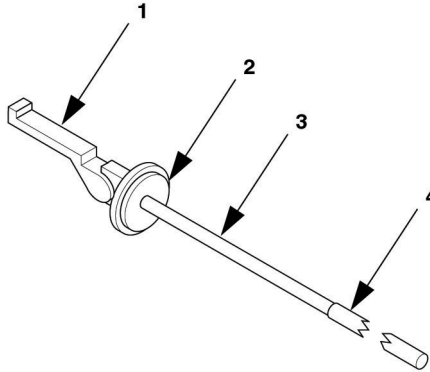

Figure 2-7. Fuel Container Adapter.
- b. Remove fuel container adapter (figure 2-7) from accessory box. The fuel container adapter consists of a strainer clamp (1, figure 2-7), adapter (2), pipe (3), and extension pipe (4). The extension pipe is not needed if the external fuel source is a 5-gallon fuel can.
- i. Insert fuel container adapter into external fuel source. Secure fuel container adapter by pressing down on strainer clamp (1, figure 2-7).